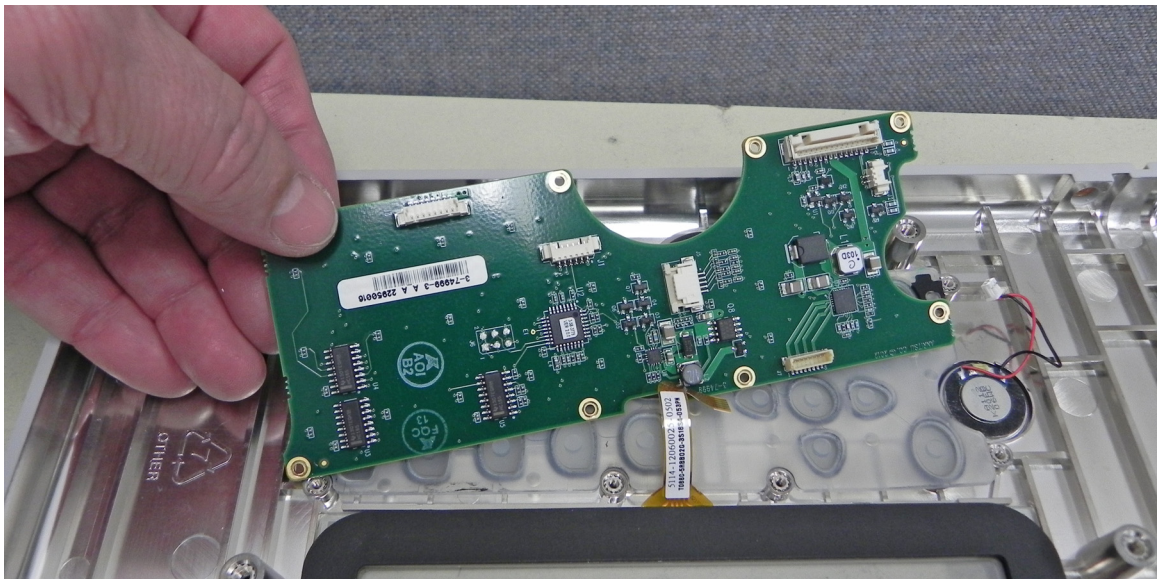

Figure 5-29. Remove Keypad PCB
8. Carefully remove the PCB to expose the rubber keypad membrane (Figure 5-29).